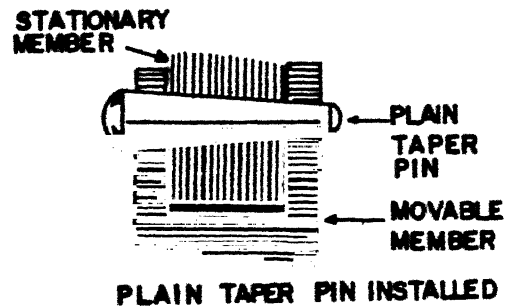

FIGURE 10-13.--The taper pin installed.
34. The taper pin has no head and is used in joints that carry shear loads and where a tight fit is essential (figure 10-13).